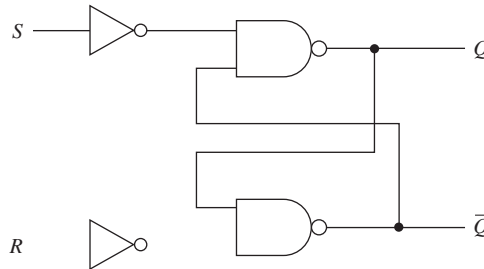
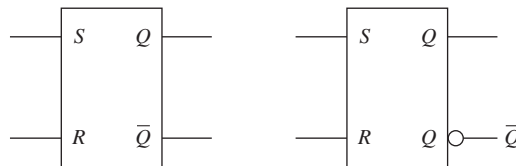

Figure 2 Cross-NAND *S-R* flip-flop.
Figure 3 Symbols for an *S-R* flip-flop.
3. From Figure 2(a), there is ~ 0.2 V dropped across the 1.6 k, 0.7 V across V_{BE3} , and 0.7 V across D_3 , leaving ~ 3.4 V at the output terminal.
An *S-R* flip-flop can also be made from cross-NAND gates, as shown in Figure 2. Prove to yourself that Figure 2 will produce the function table shown in Table 2. (Start with $S = 1, R = 0$, and remember that a NAND is LOW out only when *both* inputs are HIGH.) The symbols used for an *S-R* flip-flop are shown in Figure 3. The symbols show that both *true* and **complemented** Q outputs are available. The second symbol is technically more accurate, but the first symbol is found most often in manufacturers' data manuals and in this text.